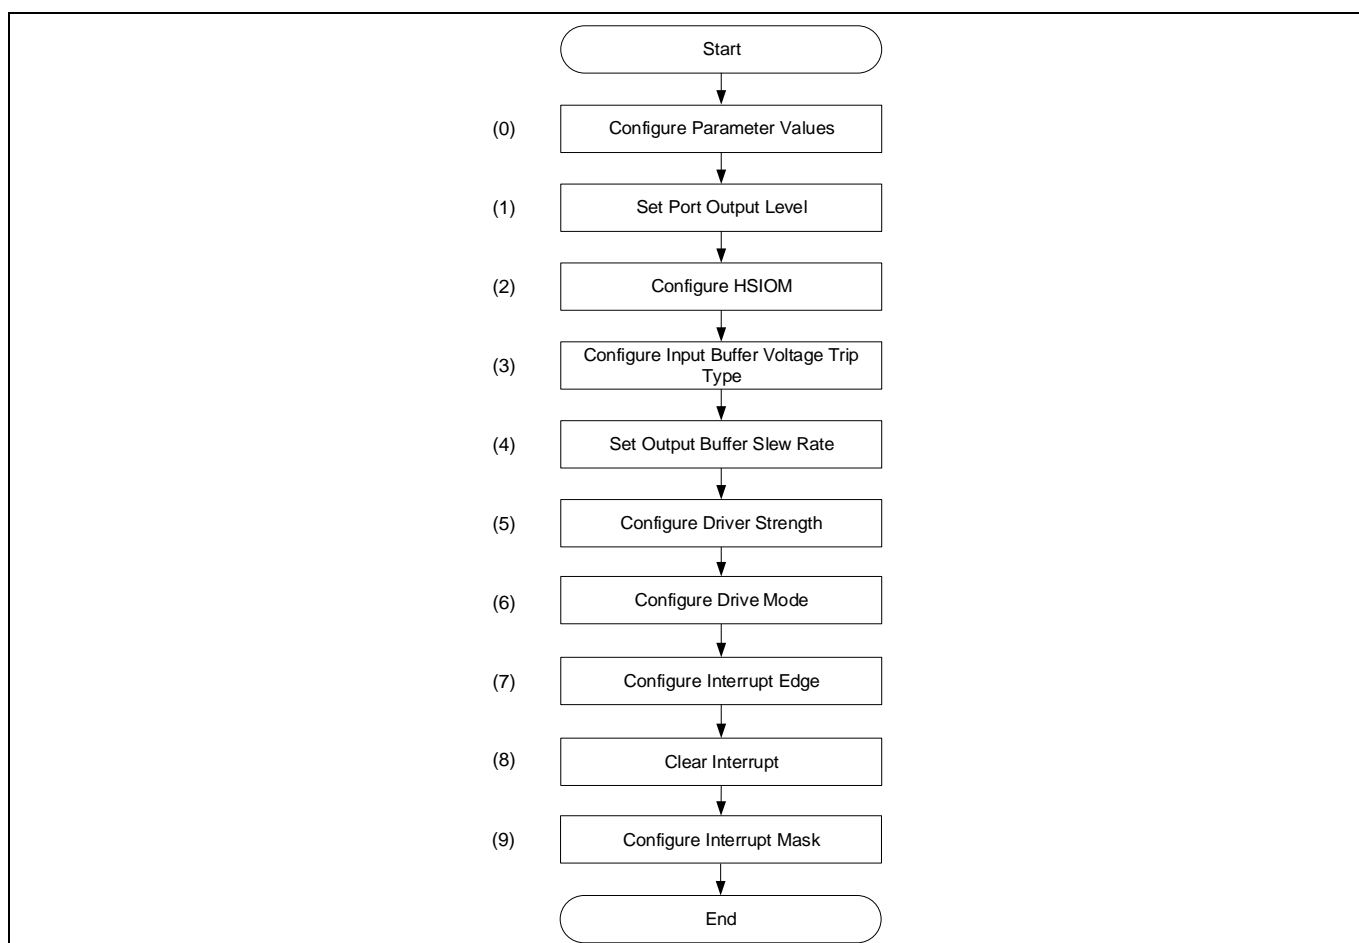

Figure 4 GPIO Pin Initialization Procedure
Figure 4 shows the flow to initialize the GPIO pin. In this flow, (1) is performed in the configuration part, and (2) to (10) are performed in the driver part. The suffix “y” indicates the pin bit-field within the port register. The detailed settings are described in the use case.
- (0) Configure the parameter values according to the system.
- (1) Set the initial output state of the GPIO pin to port the output data set register (OUT_SET.OUTy). This is not required if the GPIO pin is set to input.
- (2) Configure the HSIOM connection to the pin to the HSIOM port selection register (PORT_SEL0.IOy_SEL). Port becomes active (Port output) by the HSIOM register configuration.
- (3) Select the input buffer to port input buffer configuration register (CFG_IN.VTRIP_SELy_0).
- (4) Configure the pin output buffer slew rate to the port output buffer configuration (CFG_OUT.SLOWy).
- (5) Configure the output drive strength to the port output buffer configuration (CFG_OUT.DRIVE_SELy).
- (6) Configure the drive mode to the port configuration register (CFG.DRIVE_MODE3).
- (7) Select the disable or enable interrupt to the port interrupt configuration register (INTR_CFG.EDGEy_SEL).
- (8) Clear the pin interrupt to the port interrupt status register (INTR.EDGEy).
- (9) Configure the interrupt mask to the port interrupt mask register (INTR_MASK.EDGEy).